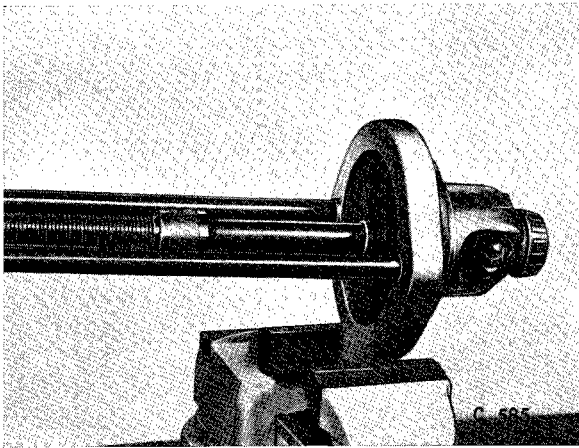

Fig. 34. Withdrawing differential side bearing
Remove the differential carrier assembly and the spreading tool. Using Churchill Tool No. S4221A-8C, withdraw the bearings (19) as shown on Fig. 34.